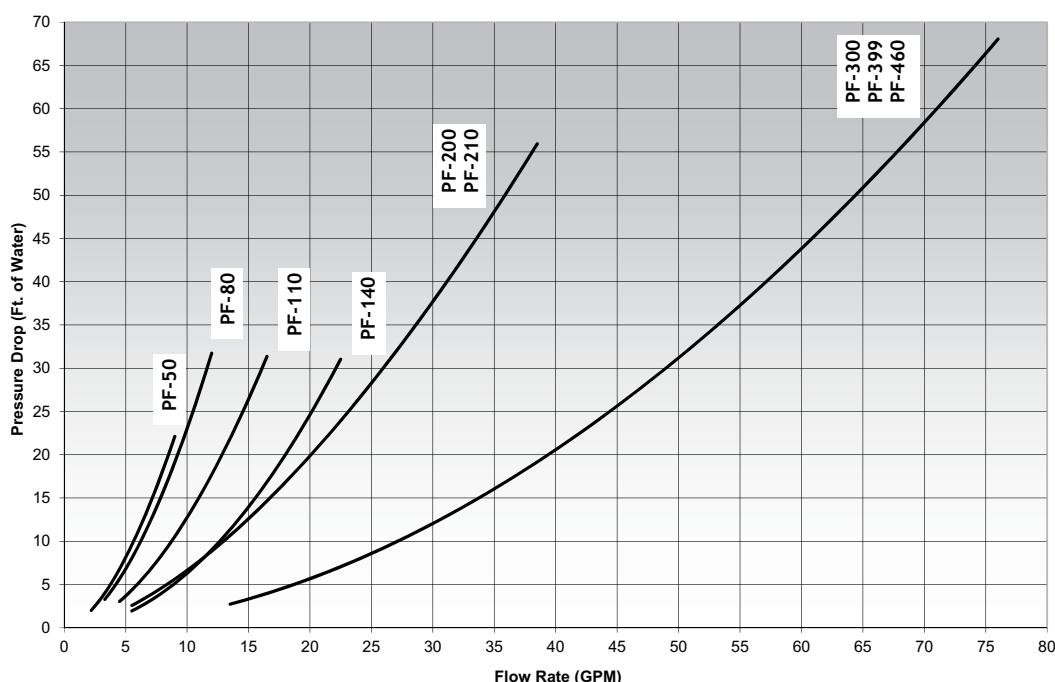

Figure 4.4: PUREFIRE® Circulator Sizing Graph (General Pump – Primary/Secondary)
- d. The boiler pressure drop for various flow rates can be determined using Figure 4.4, the *PUREFIRE®* Boiler Circulator Sizing Graph.